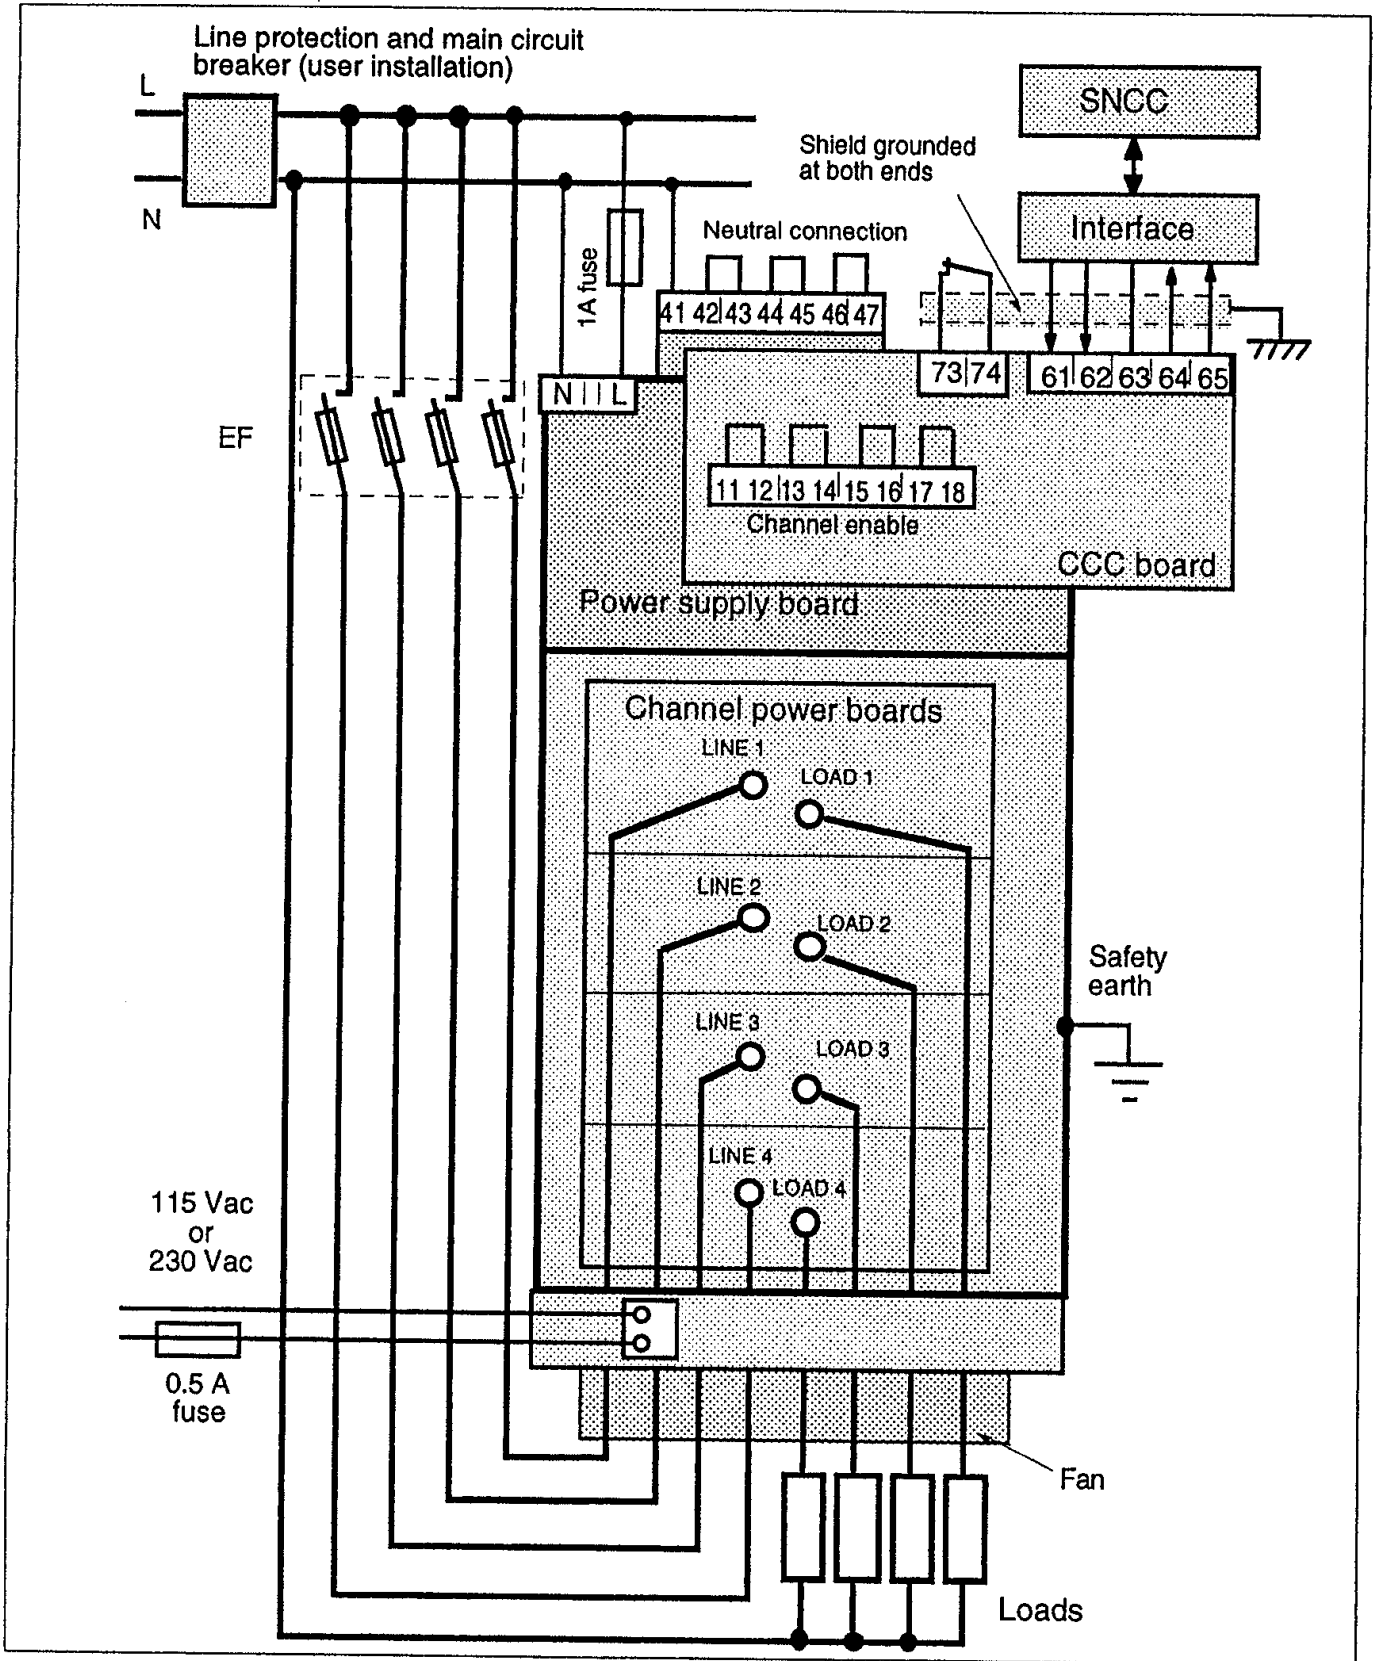

Figure 3-13 Example of TU1451 thyristor unit connection with a digital setpoint
- In order to obtain correct thyristor unit control operation, the 4 power channels and the electronics supply must be connected between the same phases (see wiring diagrams figures 3-13 and 3-14).